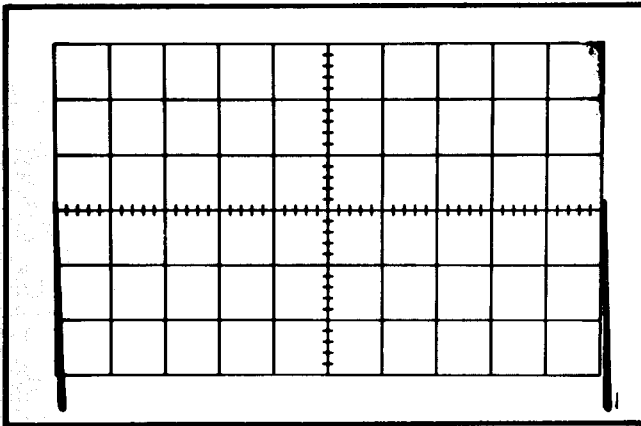

Fig. 5-18. Typical CRT display when checking delayed-sweep accuracy.
b. CHECK-Using the A TIME/DIV switch, B TIME/DIV switch and time-mark generator settings given in Table 5-4, check delayed sweep accuracy within the given tolerance. First set the DELAY-TIME MULTIPLIER dial to 1.00 and rotate the dial until the sweep starts at the top of the second marker (see Fig. 5-18). Note the dial reading and then set the dial to 9.00 and rotate slightly until the sweep starts at the top of the tenth marker. DELAY-TIME MULTIPLIER dial setting must be 8.00 divisions higher, + or - the allowable error given in Table 5-4.